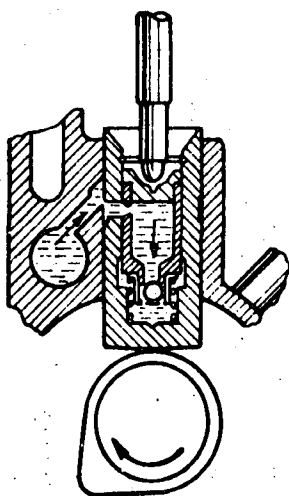
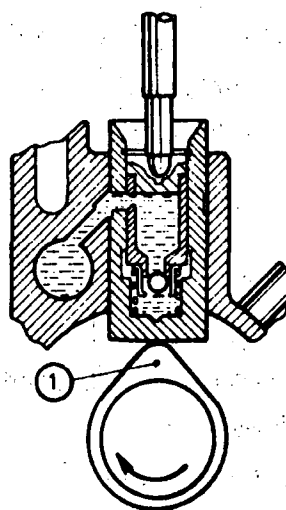

Fig. 3
Fig. 4
Functioning of Hydraulic Valve lifters. The valve lifter (fig. 3) is supplied with oil by the pump, through a canal bored all along the length of the engine. When the cylinder valve is closed, the oil from the pump enters under pressure into the upper chamber through the canals bored in the body and piston, and forces the spherical valve to open, overcoming the tension of its spring, and so flowing into the lower chamber. The piston is pushed upwards by the pressure of the oil until it connects with the rocker arm spindle; in this way, any play existing in the valve is compensated for. When the lobe (1) of the cam comes into contact with the tappet (fig. 4), it rises producing an increase in pressure in the lower chamber which closes the valve, so enabling the tappet to function as one single unit. This action is transmitted to the rocker arm push rod unit, opening the valve of the cylinder. When the valve lifter lowers, the valve of the cylinder is closed and the pressure on the piston ceases. The oil excess in the lower chamber returns to the crankcase passing between the piston and the body of the valve lifter.